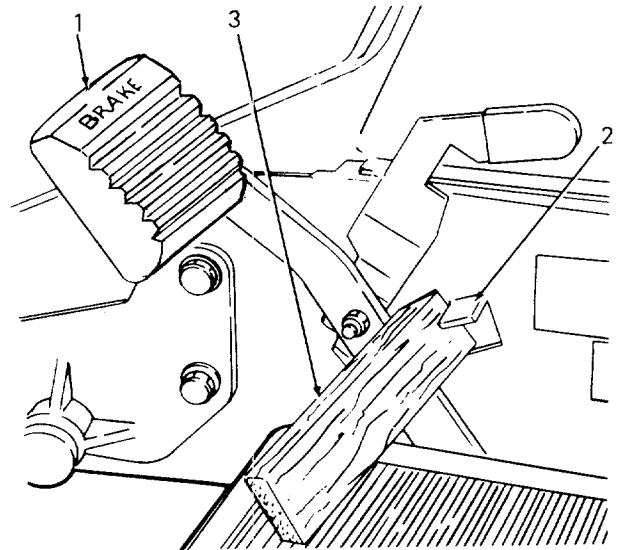

Figure 25
1. To check brake adjustment, place a 1 inch thick wood block between the single brake pedal and the brake lock tab (see Figure 25).
2. Place a 1 inch thick wood block between the single brake pedal and the brake lock tab (see Figure 25).